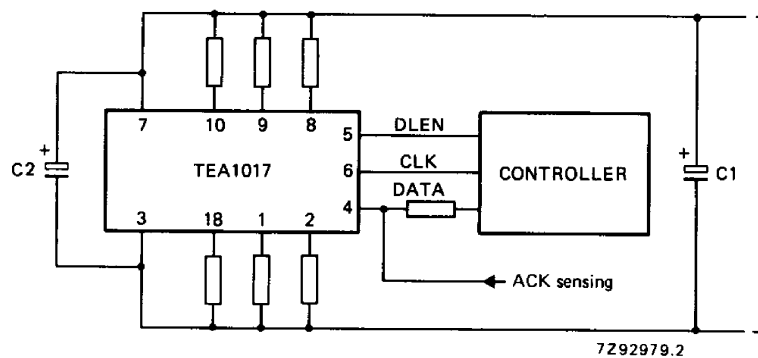

Fig. 5 TEA1017 with 3 loads to V_{CC} $Q = 0$ and 3 loads to V_{EE} $Q = 1$.
2. If no use is made of the acknowledge information it is advised to program the data-output from the controller to LOW during the time ACK is valid. To use the acknowledge information the data-output has to be programmed HIGH. When a push-pull controller device is used a series resistor has to be connected in the data-line between the controller and TEA1017. The ACK may be sensed on the TEA1017-side of this resistor. See Fig. 5.